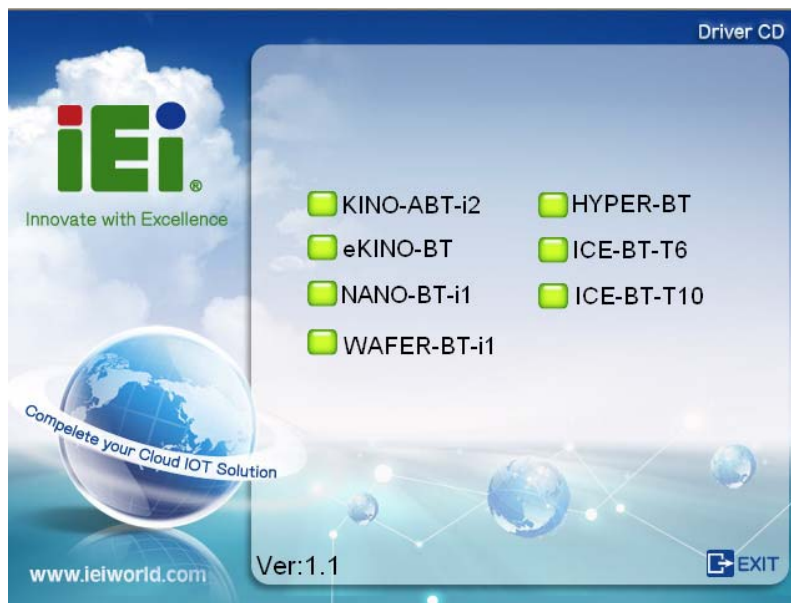

Figure 6-1: Driver CD Main Menu
Step 2: The driver main menu appears (**Figure 6-1**).